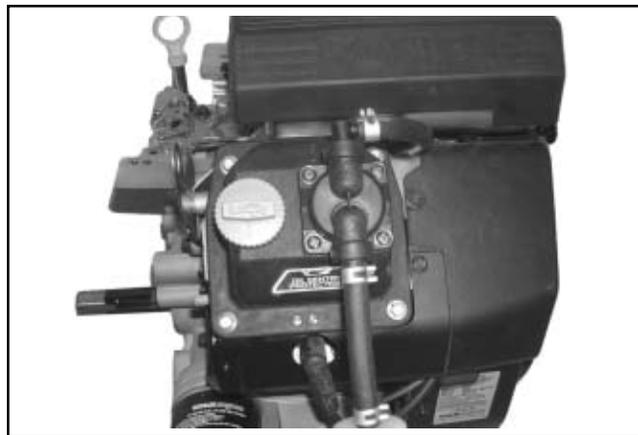

**Figure 9-16. Remove Fuel Pump and Lines.**
4. Note or mark the orientation of the fuel pump, then remove the fuel pump with lines attached as shown in Figure 9-16.